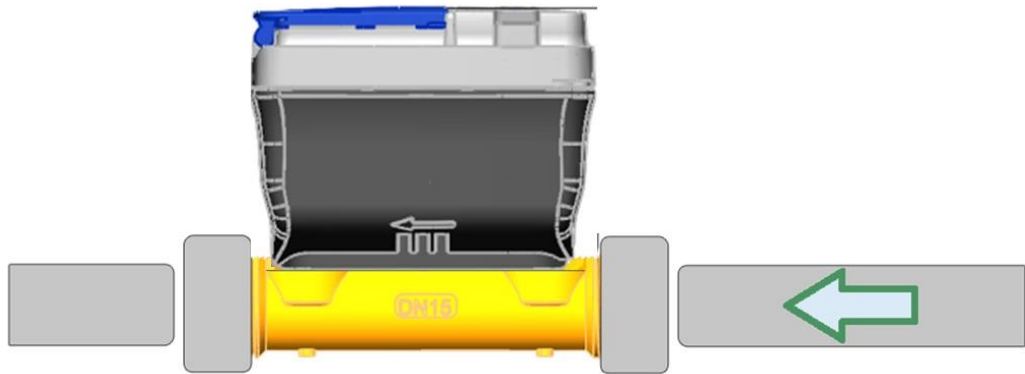

Fig. 3. The flow direction is indicated by an arrow on the side of the water meter housing.
**Step 1.** Arrange all components in one direction with the arrows in the following order as shown in the Figure 3.